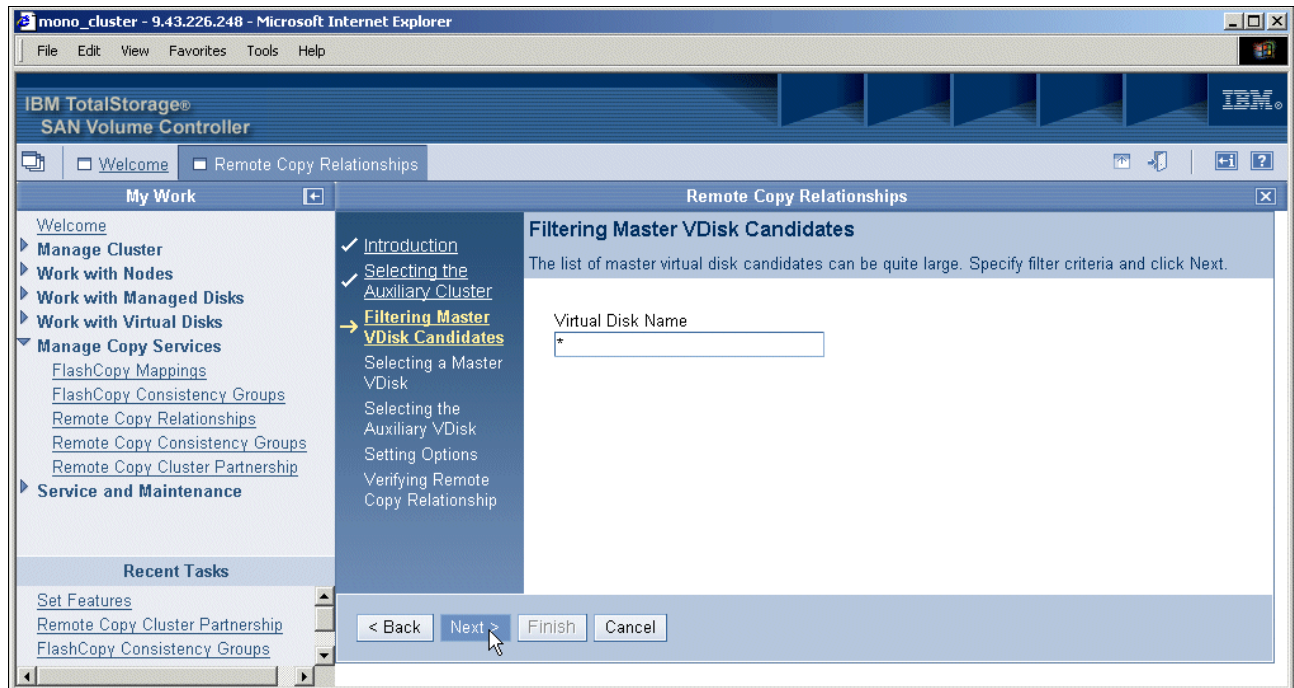

Figure 11-20 Filtering Master vDisk Candidates
5. On the Filtering Master vDisk Candidates panel (Figure 11-20), filter the list of vDisk candidates. Click **Next**.